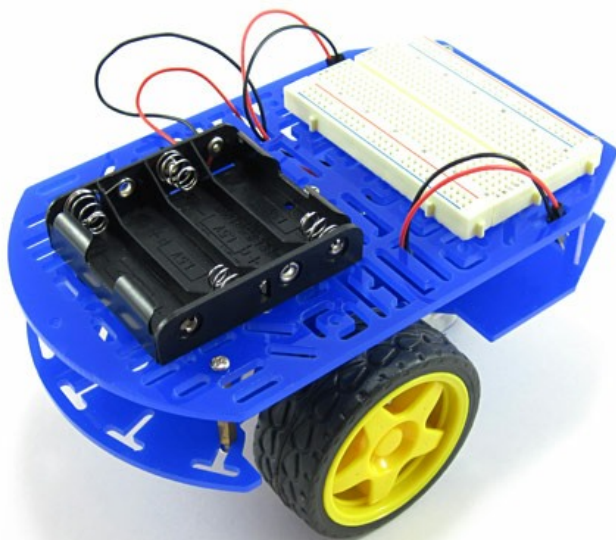

Figure 4. A completed BlueBot chassis with breadboard and battery pack on top.
- b. Note that we recommend using double-sided foam tape to attach the battery holder to the top of the chassis, as shown in Figure 4. The printed directions recommend putting the battery holder in-between the two chassis plates, but this makes it harder to change the batteries.